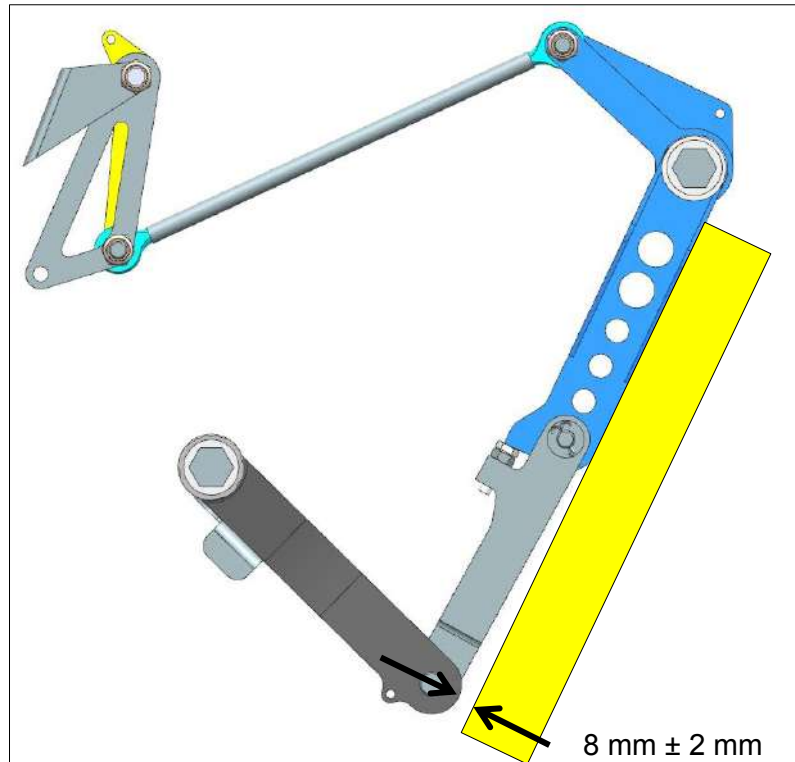

Figure 32-14: Measuring the over-centre
6. Place a ruler or similar straight edge against BC1TW to measure the over-centre. The edge of FA1TW should be at least 6 mm away from the ruler (Figure 32-14).